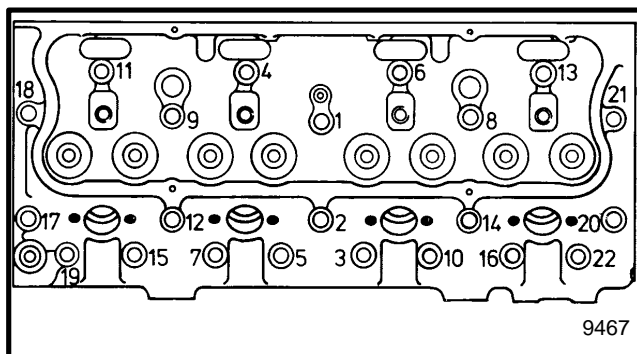

FIGURE 2. CYLINDER HEAD TIGHTENING SEQUENCE
6. Remove the cylinder head nuts and capscrews in opposite order of the tightening sequence shown in FIGURE 2. Remove the cylinder head.
3. Put the cylinder head on the engine block. See FIGURE 2. for the correct location of studs and capscrews. Tighten the nuts and capscrews to 27 N.m (20 lbf ft) in the sequence shown in FIGURE 2. Tighten the nuts and capscrews again the same sequence to 102 N.m (75 lbf ft). Tighten the nuts and capscrews in the same sequence to a final torque of 136 N.m (100 lbf ft). Repeat the final tightening procedure.
13. Run the engine until the normal operating temperature is reached. The cylinder head nuts and bolts must be tightened to the final torque again when the engine has reached operating temperature. After the engine has been run for 25 to 50 hours, the nuts and capscrews must be tightened again. Use the sequence shown in FIGURE 2. and tighten to 136 N.m (100 lbf ft). If the nut or capscrews does not turn when tightened to the final torque, loosen it 30° to 60°. Tighten it to 136 N.m (100 lbf ft). After all the capscrews or nuts have been tightened, again tighten the first ten capscrews or nuts to the final torque.